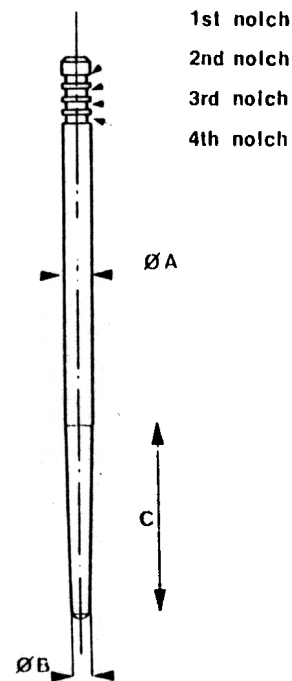

fig. 26
- the diameter B of the tip (figure 26)